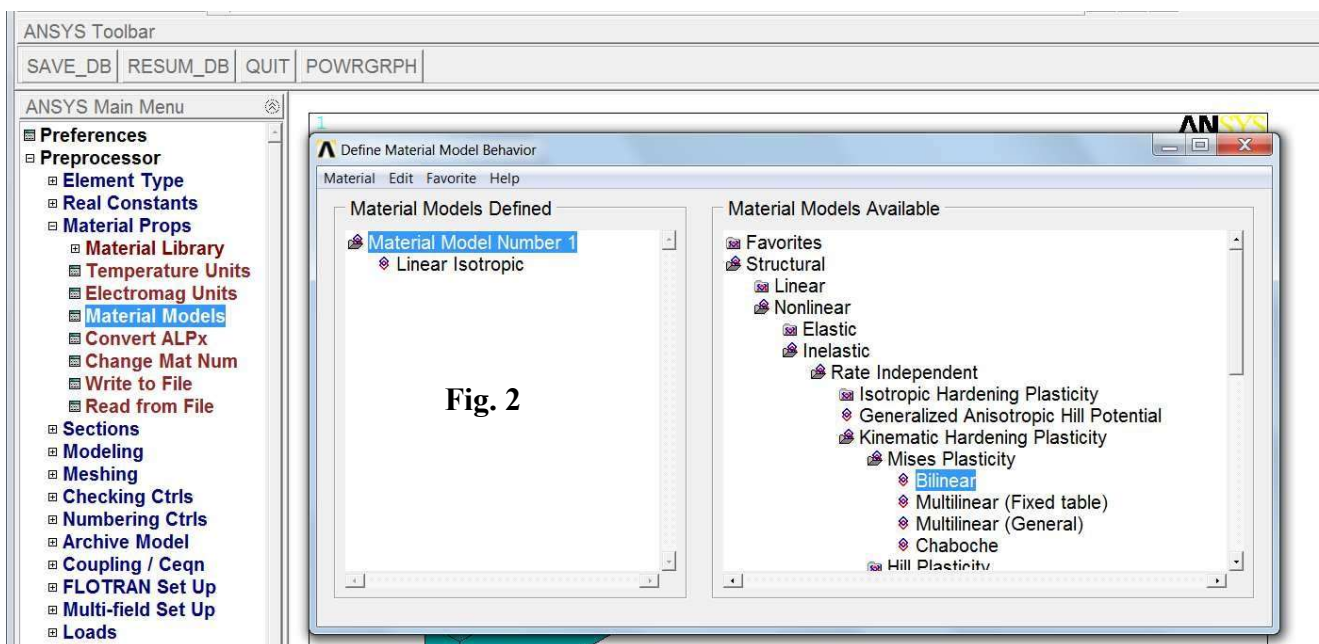

Fig. 2
3. Define linear elastic, isotropic material properties:  $E = 2 \cdot 10^5$ MPa (Young's modulus) and  $\nu = 0.3$  (Poisson's ratio) and nonlinear properties: a bilinear kinematic hardening model with  $\sigma_y = 250$ MPa (Yield stress) and  $E_t = 100$ MPa (tangent modulus) (Fig. 2 and 3).